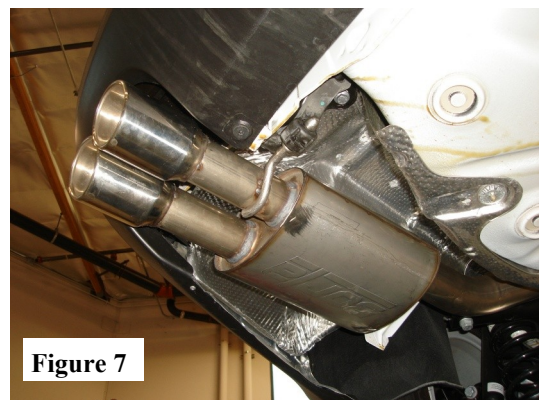

Figure 7
4. Check your exhaust system for proper clearance under the vehicle and also for tip alignment. (See Fig.7) Once position has been determined to be correct, tighten the Accuseal™ clamp 32-35 ft. lbs. Tighten the OE clamp bolts on front pipe.